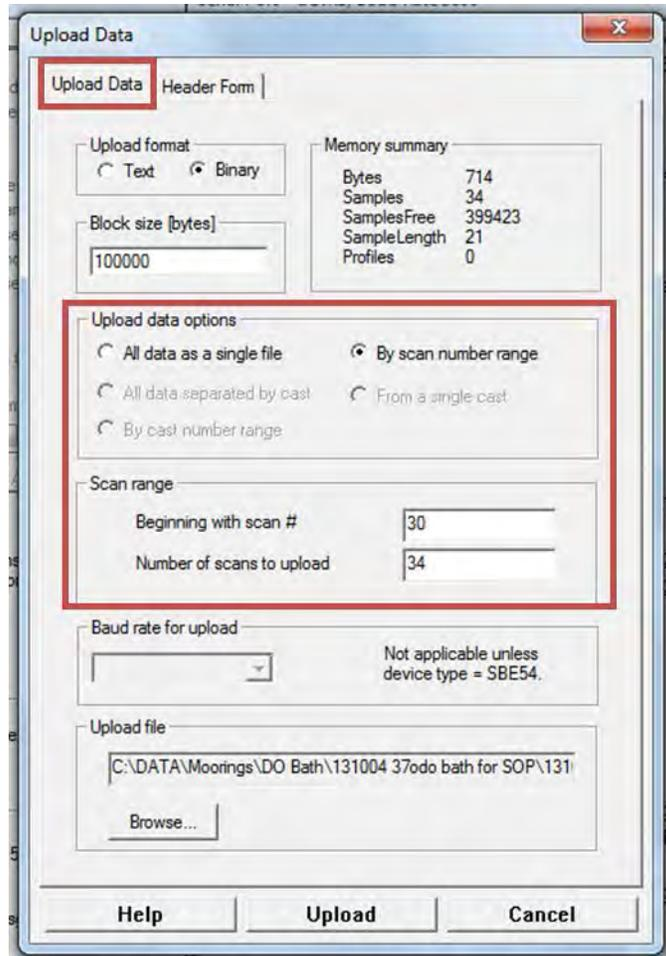

Figure 31. Image of Upload Dialog box for SBE 37-SMP-ODO.
- e. In the **Upload Data** tab, enter scan range (Figure 31).